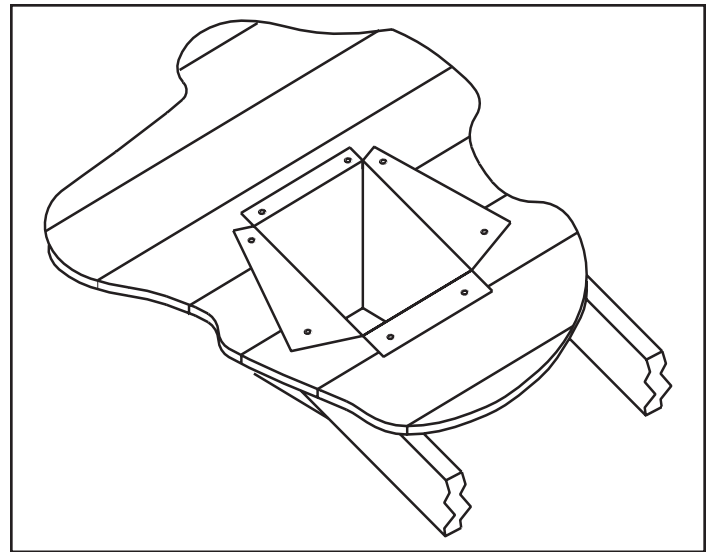

Figure 5.18
Step 4 - Using tin snips, cut the support box from the top corners down to the roof line, and fold the resulting flaps over the roof sheathing (Figure 5.18). Before nailing it to the roof, run a bead of non-hardening mastic around the top edges of the support box to make a seal between it and the roof. Clean out any combustible material from inside the support box.